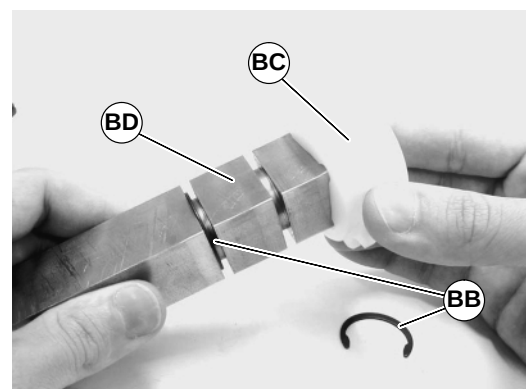

Figure 45
2. Install drive sprocket (BC of Figure 45) with snap rings (BB) to pulley (BD).
1. Install drive sprocket (BC of Figure 45) with snap rings (BB) to pulley (BD).